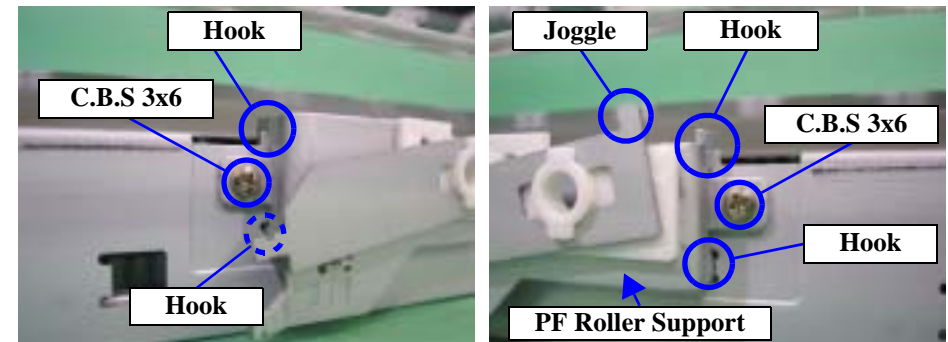

Figure 4-137. Removing the PF Roller Support
- When reinstalling the PF Roller Support, hitch the two upper hooks on the projections of the Under Frame, and insert the two lower hooks into the notches. Refer to Figure 4-137, "Removing the PF Roller Support".
- Place the Under Driven Roller on the joggle of the PF Roller Support in advance. Refer to Figure 4-137, "Removing the PF Roller Support".